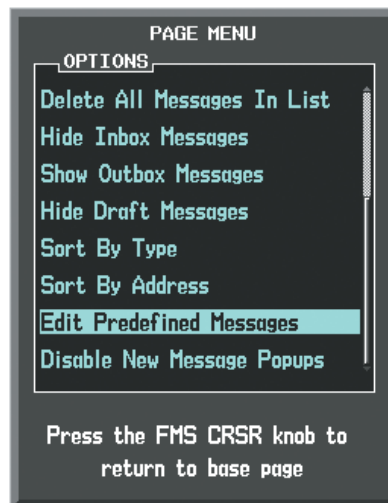

Figure 8-99 Creating/Editing Predefined Messages
- 2) Turn either **FMS** Knob to select 'Edit Predefined Messages' as shown in Figure 8-99.